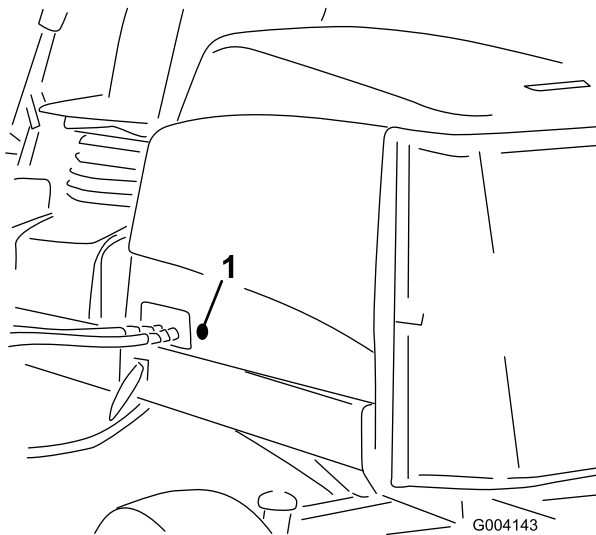

Figure 17
2. Remove the rubber grommet from the hole in the left side of the hood (Figure 17).